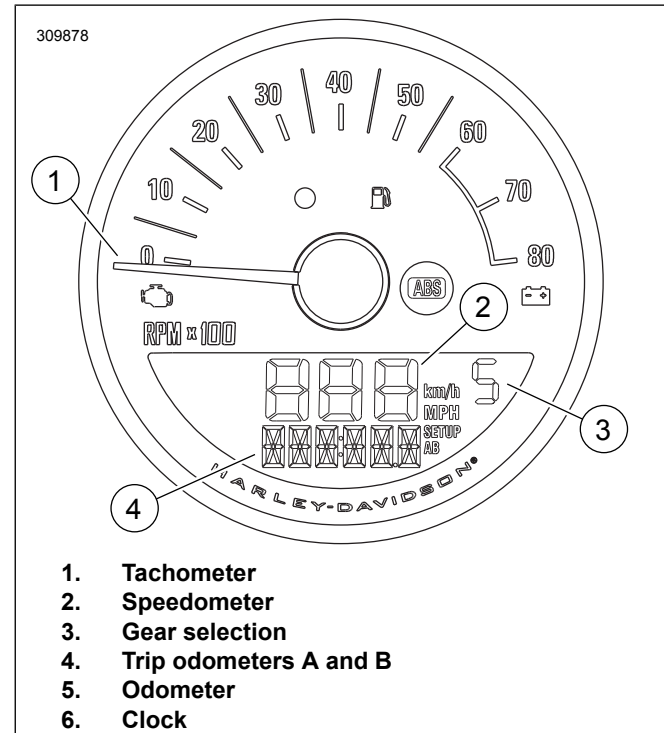

Figure 25. Instruments: XL1200CX
See Figure 25. The sweep needle of the tachometer (1) indicates the engine speed in revolutions per minute (rpm).
See Figure 25. The speedometer (2) registers miles per hour (U.S. models) or kilometers per hour (international models). The display can be changed from mph to km/h. See Operation > Odometer Window Displays (Page 78).
See Figure 25. The currently selected gear number (3) is displayed when the motorcycle is moving. When the transmission is in neutral or the clutch lever is pulled in, the gear number is blank.
See Figure 25. The odometer (5) is located in the speedometer face.
See Figure 25. To check mileage, press and release the trip switch to display either the A or B trip odometer in the odometer window. An A or B (4) identifies the trip odometer.
See Figure 25. Press and release the trip switch to display the clock (6) in the odometer window.